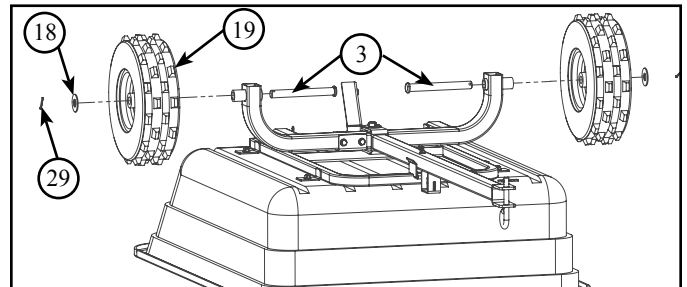

Figure 3.18 - Axle/Wheel Assembly
- Insert the axles (3) through the axle bushings. Refer to Figure 3.18
- Install wheels (19) onto axles (3). Refer to Figure 3.18
- Secure each wheel with a washer (18), and cotter pin (29) on each axle, use pliers to bend the cotter pin ends to secure. Refer to Figure 3.18